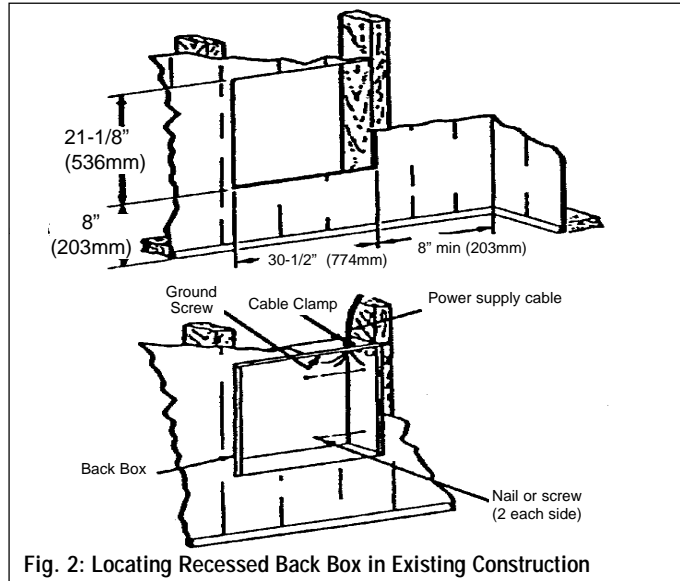

Fig. 2: Locating Recessed Back Box in Existing Construction
2. Power Supply Wiring (See Figure 2)
1. Provide a wall opening 30-1/2" (774mm) wide by 21-1/8" (536mm) high at the desired mounting height, but no closer than 8" (203mm) to floor or adjacent wall. (See Figure 2.)
- b. Secure the back box in place with wood screws or nails. (see Fig. 2)